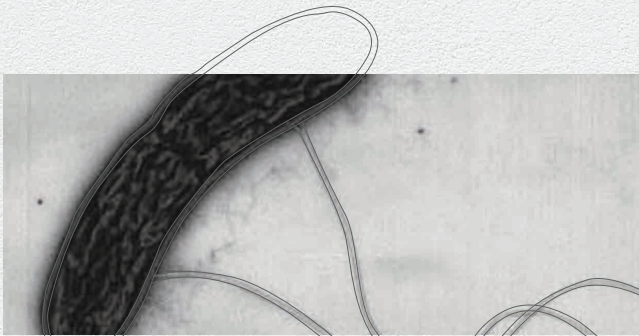

Figure 1:
*Geobacter sulfurreducens* in figure 1, is a bacterium that has been extensively studied by researchers due to its ability to transfer electrons outside its cell membrane. *Geobacter sulfurreducens* uses its pili, ie their microscopic electrically conductive hairs to transport electrons to nearby metals like iron.